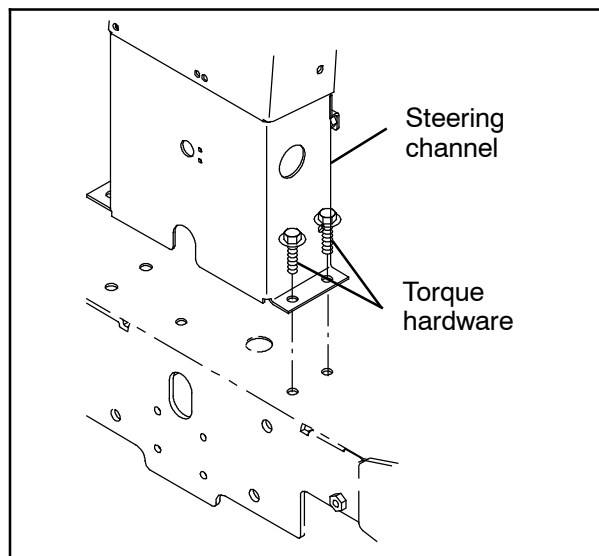

FIG. 41
15. Tighten the steering channel hardware (37-48 Nm / 27.3-35.4 ft lbs). (Fig. 41)